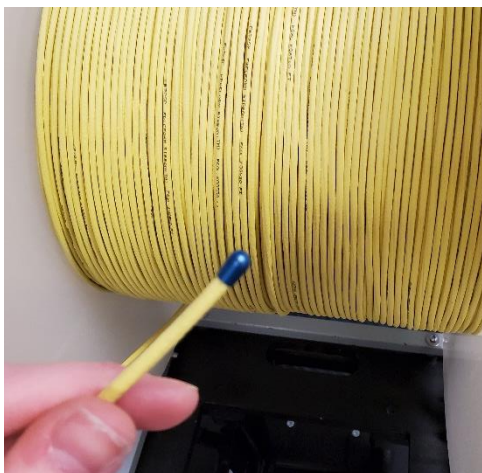

Figure 23
11.2 Screw correct type / size Fiber Bundle Blowing Tip onto end of fiber bundle. Ensure Blowing Tip is threaded on straight and firmly attached. **See Fig. 23.**